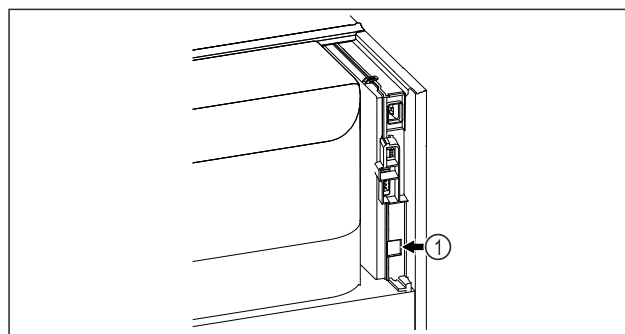

Fig. 81
- SmartModule Fig. 81 (1) is in use.